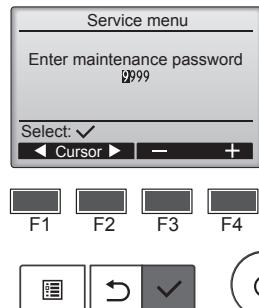

Fig. 6-3
- ① Select "Service" from the Main menu, and press the button.
- ② When the Service menu is selected, a window will appear asking for the password. (Fig. 6-3)